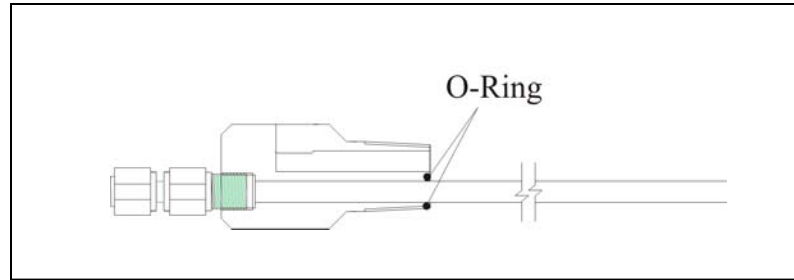

Figure 4
- 3.1.6 Replace the O-ring inside the base (see Figure 4).